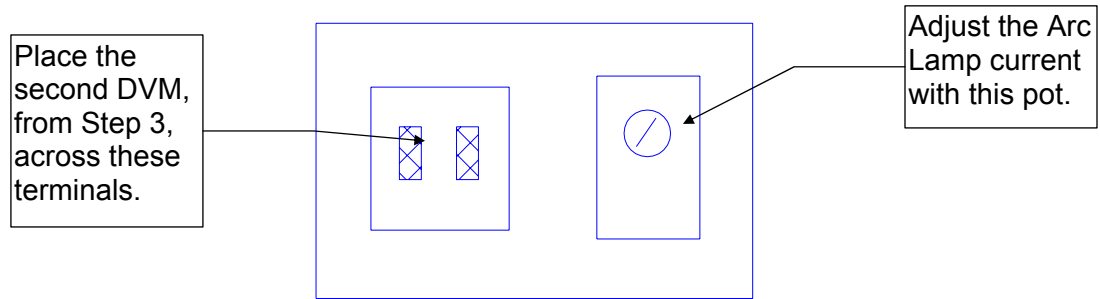

Figure 3-4. Arc Lamp Power Supply aperture.
4. Place another DVM, set to read at least 200 millivolts dc, across the test points inside the small rectangular aperture, near the upper left of the Arc Lamp Power Supply cover (see Figure 3-4). NOTE: This test point reads millivolts across a shunt that has been selected so that a 1 millivolt reading on the DVM is equal to 1 amp of Arc Lamp current.
7. If the result is not 750 watts, adjust the trimmer pot (*refer to Figure 3-4*). CW=increase, CCW=decrease. If increasing, notice that the Arc Lamp voltage from Step 2 may decrease slightly. Adjust the trimmer pot until power is 750 watts.